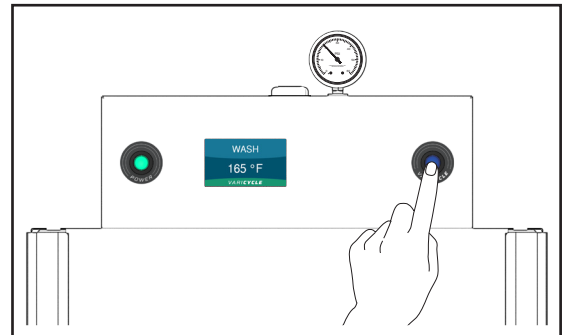

Fig. 48 - Varicycle button on extends wash
1. Press the Varicycle button one time during the wash cycle to extend the wash time up to 16 minutes for heavily soiled wares needing a wash time longer than 35 seconds (see Fig. 48).